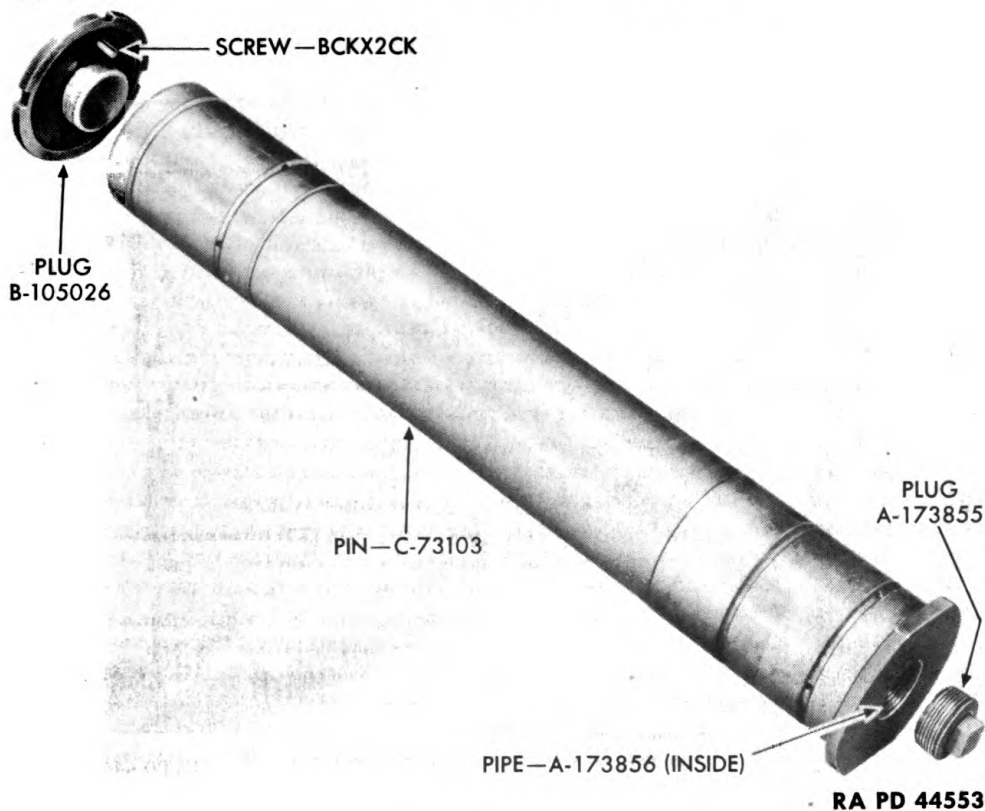

Figure 239—Trail Hinge Pin
(2) Paint mating surfaces of new spade support and front spade with **PRIMER**, synthetic, rust-inhibiting. Coat threads of three bolts with **COMPOUND**, rust-preventive, light, and secure support to spade with bolts, nuts, and washers.
c. Repair Scored Trail Hinge Pin (fig. 239).
(1) A scored trail hinge pin, when not badly scored, can be refinished by polishing with **CLOTH**, crocus. Clean with **SOLVENT**, dry-cleaning.
(2) Clean out oil channels in trail hinge pin so oil can flow to bearing surfaces on trail hinge pin, trails, and bottom carriage.